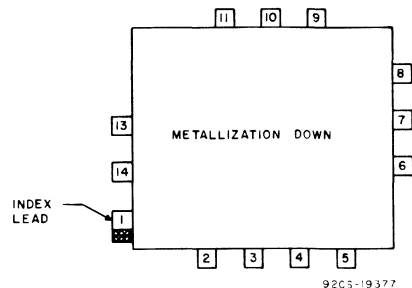

Fig. 3-2— Terminal layout for CA3028AL (14-lead configuration)
- Low-noise figure: 3.2 dB typ. at 1 kHz